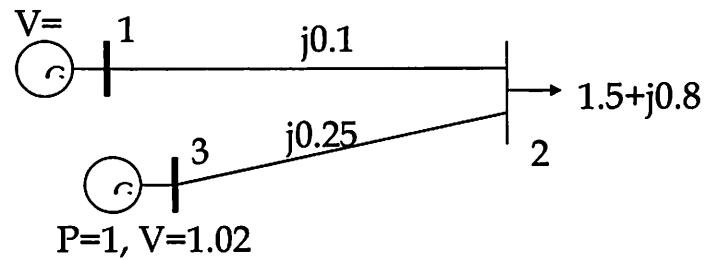

Figure 3.1 Three bus network showing per unit data for voltages, active and reactive load, and lines reactance
b) A three bus power network is presented in Figure 3.1. Data relevant for the load flow analysis on this system are given in per unit.